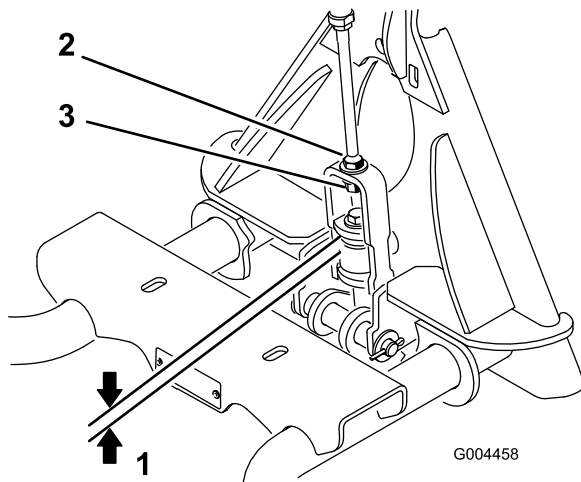

Figure 3
2. Measure the gap between the top washer and the spacer in the link assembly on the attachment adapter as shown in Figure 3.
Note: The gap between the washer and the shoulder should be 0.060 to 0.080 inch (Figure 3).
3. If the gap is not correct, loosen the jam nut and tighten or loosen the adjustment nut on the link assembly as needed to change the gap (Figure 3).